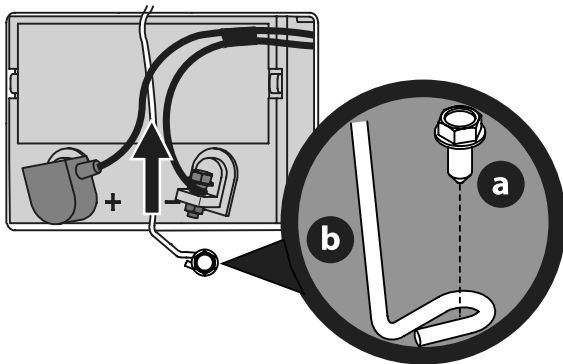

Figure 15
3. Remove the hex washer screw (a) securing the battery hold-down rod (b) to the frame. Then flip the battery hold-down rod (b) up to free the battery (Figure 15).